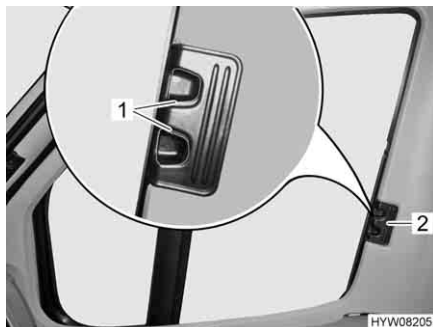

Fig. 77 Roman shade for driver's and passenger's window
- Press the release handles (Fig. 77,1) and hold them down.
- Using the handle (Fig. 77,2), draw the Roman shades for the driver's and passenger's window to the other side of the window and secure them to the magnetic strips.
- Use handle (Fig. 77,2) to push in the Roman shades for the driver's and passenger's window as far as possible.
- Let go of the release handles (Fig. 77,1) and let them engage.